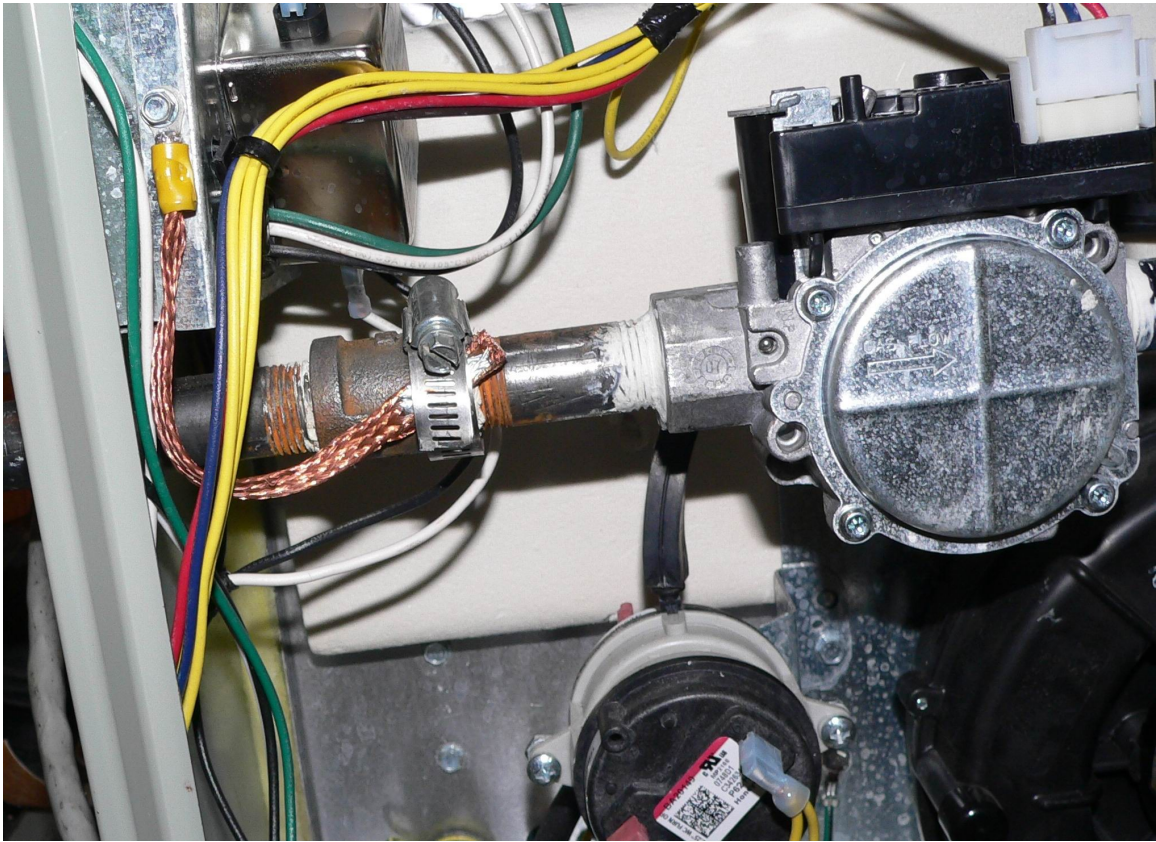

Fig. 6 Gas pipe ground
4. Using appropriate guide from Installer's Guide, drill 2 holes with provided drill bit. See Figure 6.